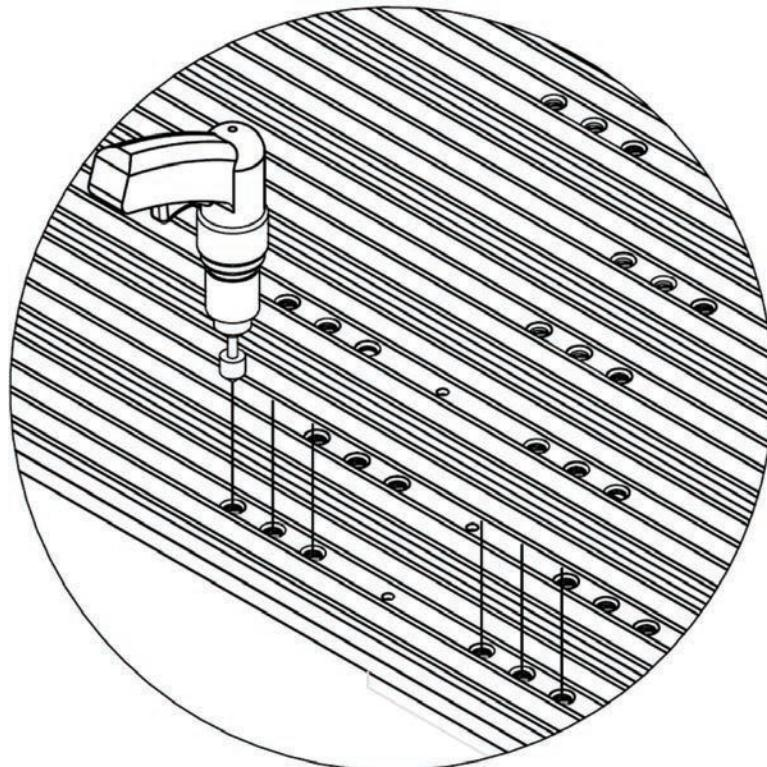

Figure 32
- f) Countersink each of the $1/2"$ [13 mm] holes with a $1" \times 90^\circ$ countersink until the floor bolts can be inserted flush with the top surface of the slat/plank. (Figures 32 and 33).